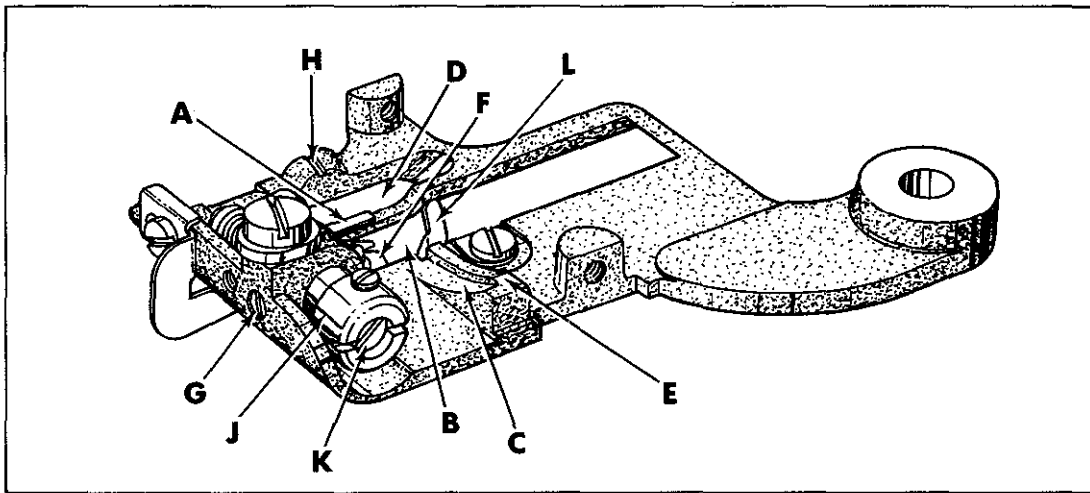
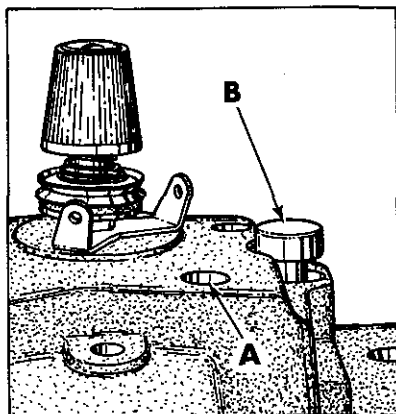

Fig. 3
Fig. 5
A view of the presser foot (Fig. 3) is shown to illustrate the various parts of the foot which are referred to in this and subsequent adjustments.
Below is the key to the labeling as shown in Fig. 3.
Insert a new needle of proper type and size as far as it will go into the needle carrier and securely tighten the clamp screw. Set the presser foot to the needle so the needle point contacts the needle guide (A, Fig. 3) when traveling from left to right and so that the needle remains in contact with the needle guide until the point of the needle lies in the span between the center of the cloth opening (B) and the right side of the cloth opening. As the needle continues to move to the right, play should develop between the needle and the needle guide until the needle reaches the needle track (C).
Turn the handwheel in operating direction until the needle point is at the left of stroke. It should be flush with the left side of looper opening (D, Fig. 3). The needle point, at right of stroke, should be to the top of radius run-out edge (E). If this is not the case, the travel of the needle will have to be adjusted in the following manner.
Turn the handwheel in operating direction until the needle eye is flush with the right side of the cloth opening (B, Fig. 3) in the presser foot. Loosen the clamp screw in the needle crank (accessible through the hole located at point (A, Fig. 5)
Press plunger (B, Fig. 5) in firmly. While holding plunger in, turn handwheel in operating direction until stitch regulating finger is felt to drop into the slot of feed regulator. Continuing to hold the plunger in, turn handwheel in operating direction to increase the stitch length and in opposite direction to decrease the stitch length.
The cloth retainer (F, Fig. 3) should be centered over ridge former and be as close to the needle as possible. To adjust retainer, loosen set screw (G) and set screw in cloth retainer bushing (J). The long prong of the retainer spring is usually aligned with the screw in cloth retainer bushing. Rotate stud (K) in bushing, to adjust retainer close to needle and also center retainer over ridge former. Retighten set screws. The chaining finger (L) should be set as close as possible to the needle.